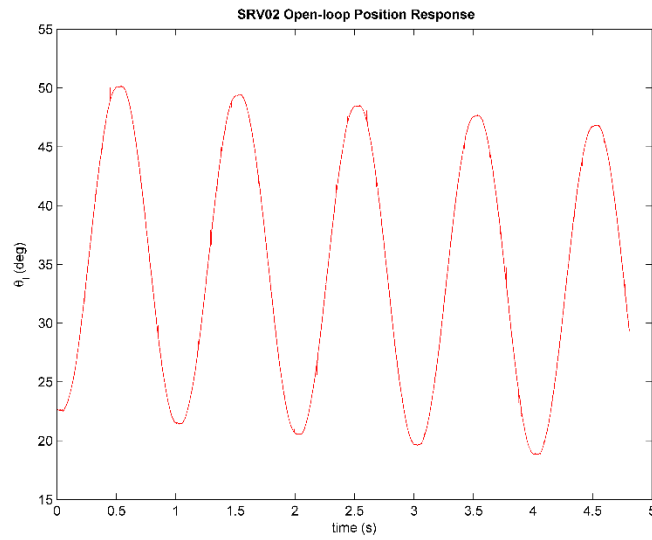

Figure A.19: Plotting saved data
9. Running the script generates a Matlab figure as shown in Figure A.19.